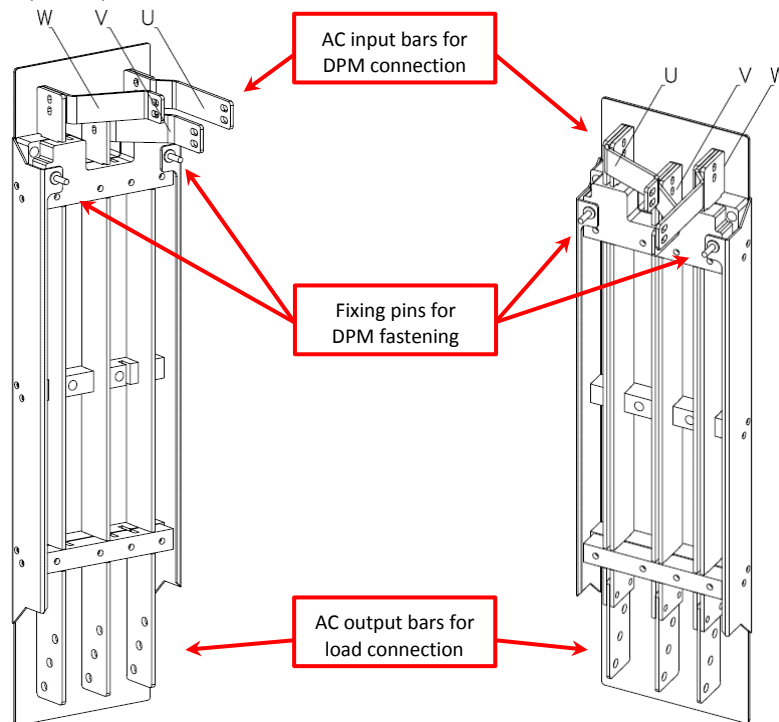
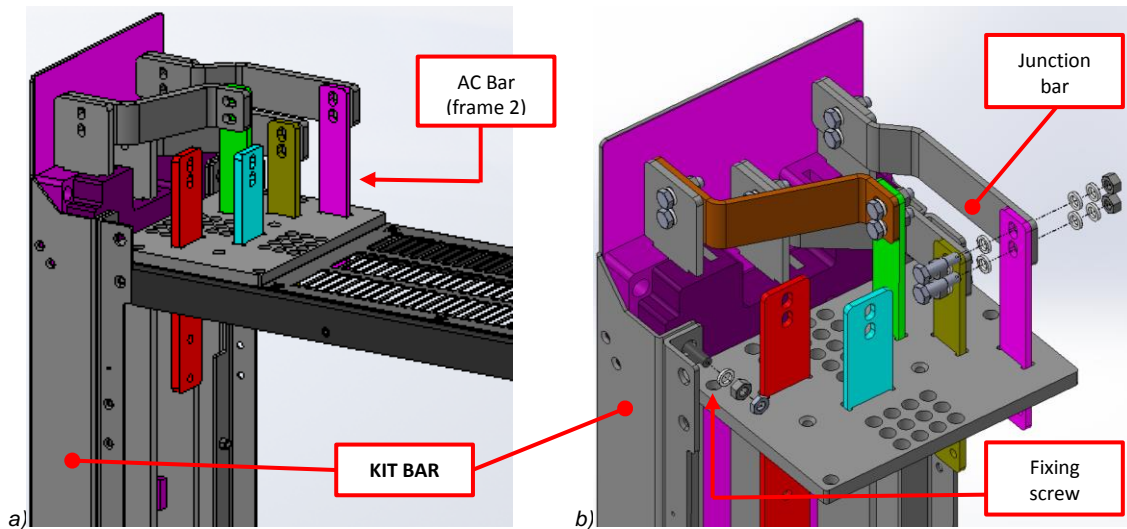

Fig. 3-6: Bus bar kits fixing pins for the DPM fastening
Fig. 3-7: Connection between rear kit bar and SDx.2 frame (M8 screw)
As mentioned in 2.5.8, a rear kit bar is provided by SECOM as option and only for frame 2. The DPM is designed to be placed in touch with the wall of the cabinet. If kit bar is present, it is placed between wall and DPM and the DPM has to be fastened using the fixing pin of the kit bars (Fig. 3-6). The pins require a M8 bolt.
- Push the DPM into the cubicle till the screw of the kit (Fig. 3-7.b) enter into the rear eyelet (Fig. 3-5.2) of the DPM itself
- Fix with bolts M8 the DPM to the kit (Fig. 3-6, Fig. 3-7)